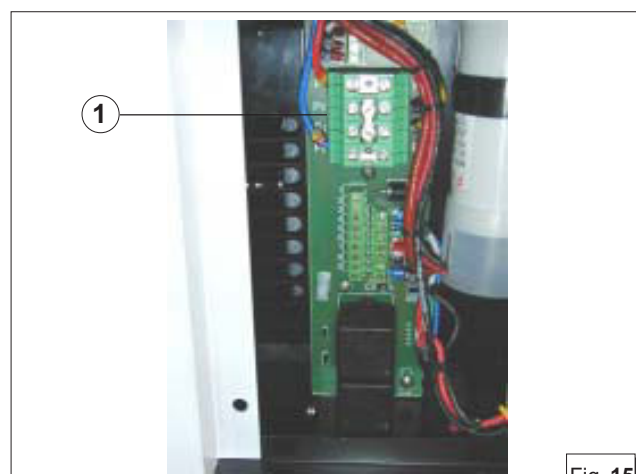

Fig. 15
This connection can be done through the power terminal board (fig. 15, ref. 1) placed inside the derivation box.
- To make both parallel and serial connections, use the special bridges provided in the accessories to the electric generator on the terminal board fig. 15 ref. 1.